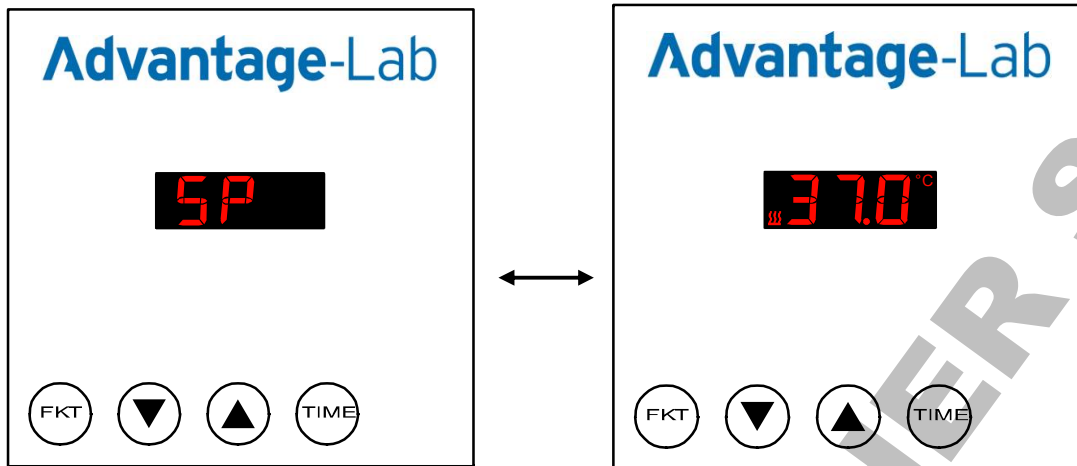

Figure 9: Displaying the parameter for the temperature set point (example)
- The controller's display shows alternately the selected parameter (e.g. SP) and its value (e.g. 37.0) (see Figure 9).